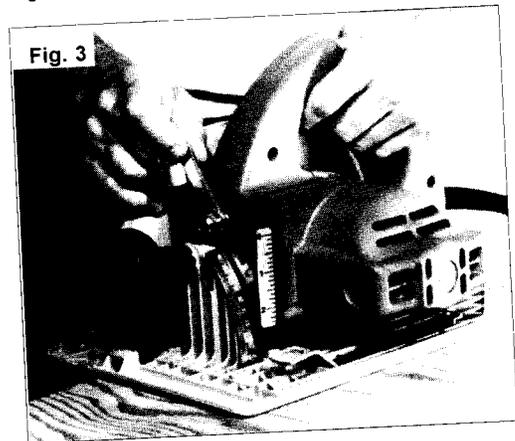

Fig. 3
### Adjusting Depth (7-1/4" Saws) (Fig. 3 & 4)
2. To adjust the depth of the cut, place the saw on the edge of the workpiece. While holding the saw by the handle, loosen the depth adjusting lever by lifting it up and moving toward the blade (Fig. 3).